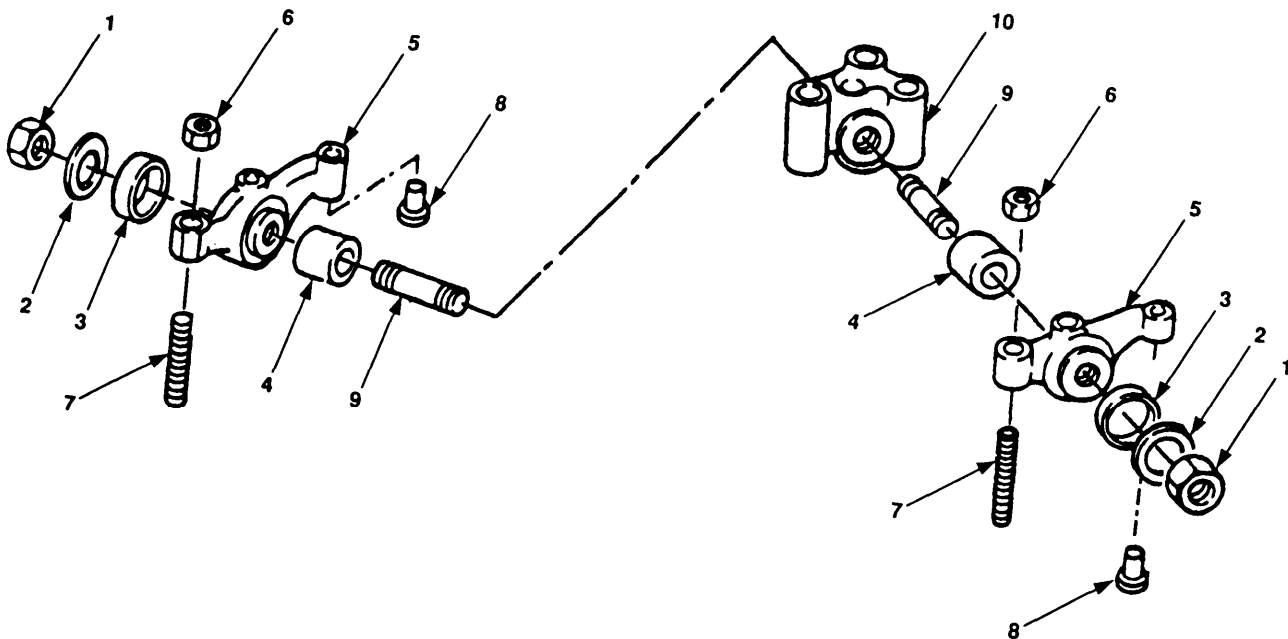

Figure 6-6. Rocker Arm Assembly Maintenance
- Remove two nuts (figure 6-6, 1), washers (2), and rocker arm assemblies.
- Remove two bushings (3), and press bushing (4) out of rocker arms (5).
- Remove two lock nuts (6) and studs (7).
- d. Remove two thrust pads (8).
- e. Remove two studs (9) from rocker bracket (10).